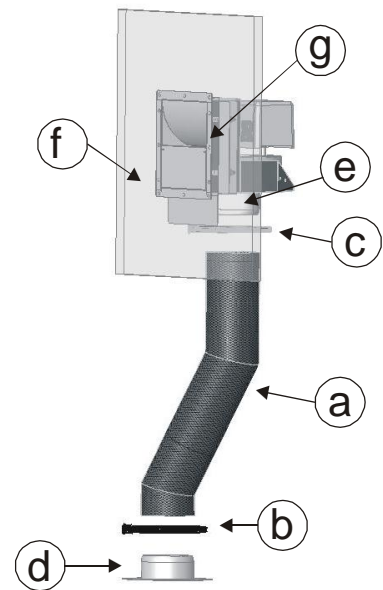

Figure 1– Hose connection
Before installing the natural or forced ventilation COMFORT AIR kit, make sure you have the following material available (fig.1):
1. **For natural ventilation:** connect the hoses (a) and the flanges (d) $\varnothing 150$ to the connections on the upper part of the stove unit (fig.1).